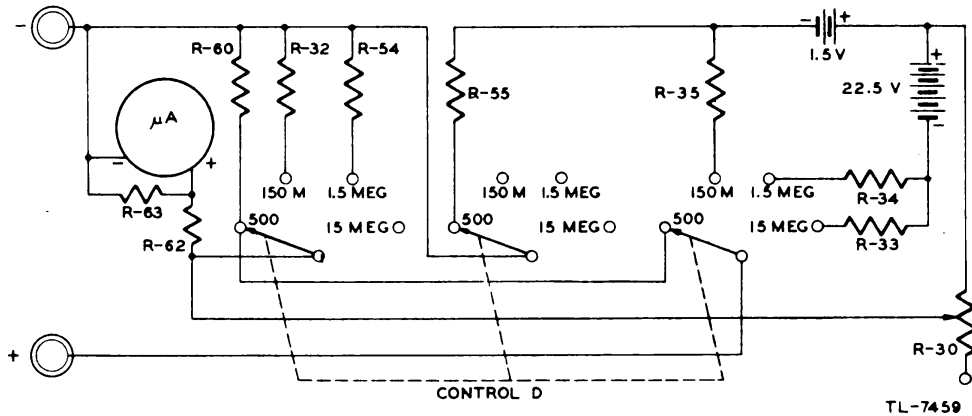

FIG. 19. MODEL 104 COMBINATION TESTER, SIMPLIFIED OHMMETER CIRCUIT
g. *Combination Tester as Ohmmeter (fig. 19).* Control D arranges the circuits so that for each of the four resistance ranges, the proper multiplier and shunt resistances are inserted. Battery BA-30 (1-1/2-volt) sup-